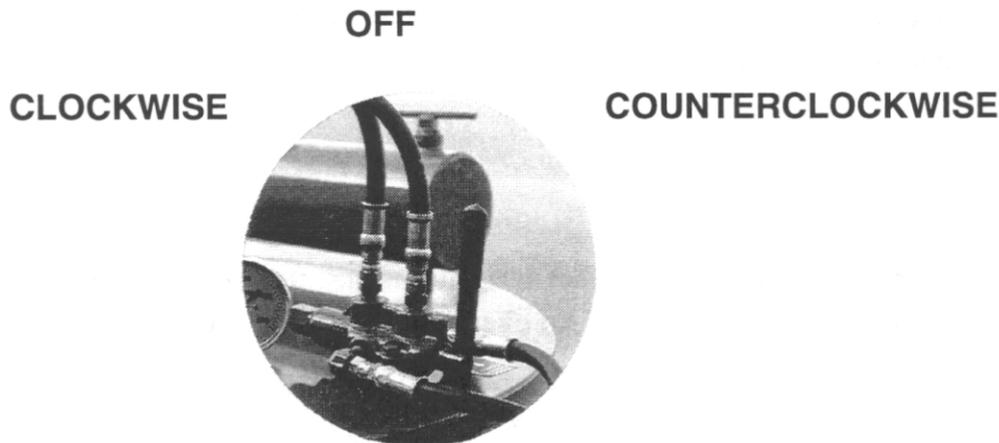

FIGURE 12
1. Return mixer controls to "off" position. See Figure 12
1. With engine running, start mixer by moving the mixer hydraulic control (1) for clockwise rotation (Figure 12). If mixer jams, control may be moved for counterclockwise rotation.